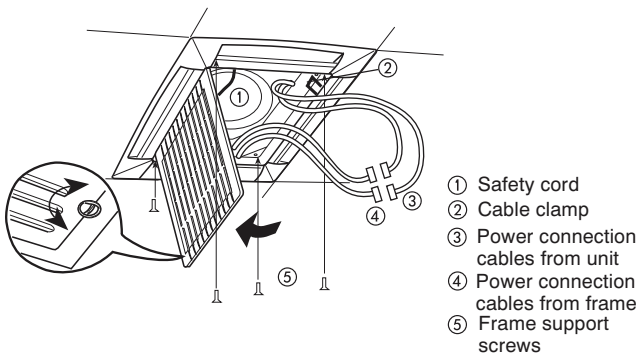

Fig. 36 - Fix Frame in Position
- c. Tighten the factory supplied screws to fix the frame in position. See Fig. 36.
- d. Link the electrical connectors and insert the wires in cable clamp. See Fig. 36.